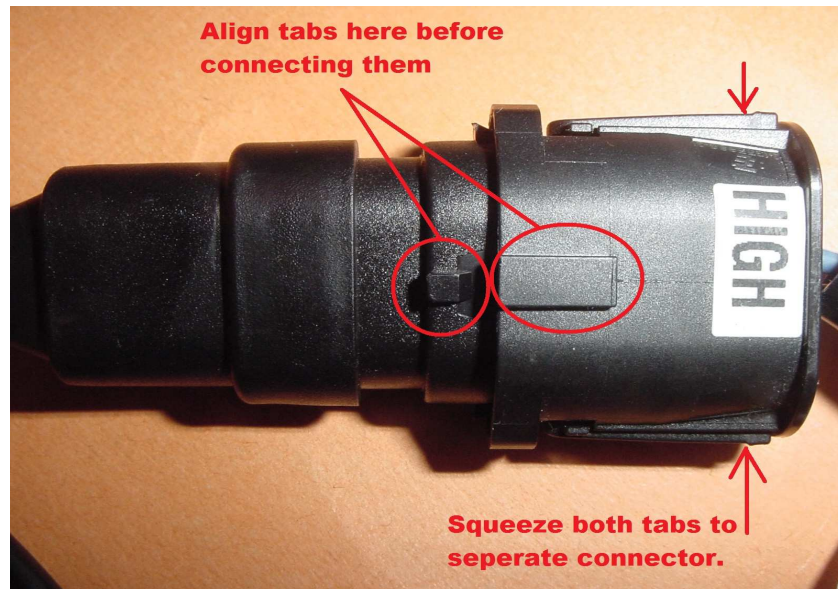

Figure 6
- 7). Make sure that when installing the LOW and HIGH beam connectors, you align the tabs before connecting them together. Once aligned, push them together until they snap closed. Squeeze the tabs on both sides as shown on the image below, Figure 6 to separate them if required.